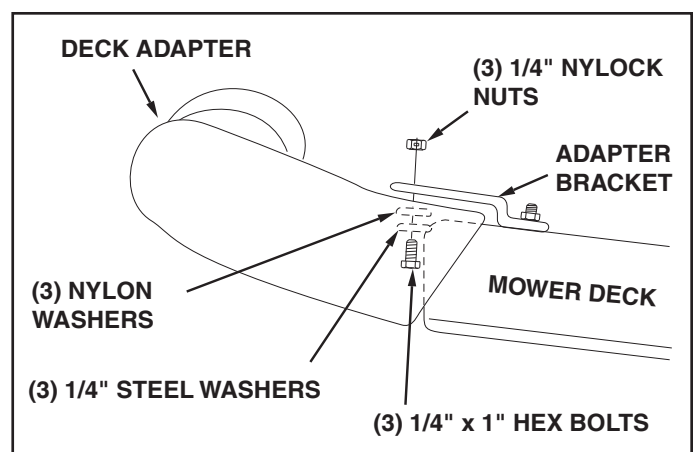

FIGURE 27
- With deck adapter positioned correctly over the discharge opening, use the adapter bracket as a template and drill three 9/32" diameter holes in the top of the deck adapter. See figure 27.
- Bolt deck adapter to bracket using three 1/4" x 1" bolts, nylon washers, 1/4" flat washers and 1/4" lock nuts. Nylon washers should be against the inside of the deck adapter. See figure 27.